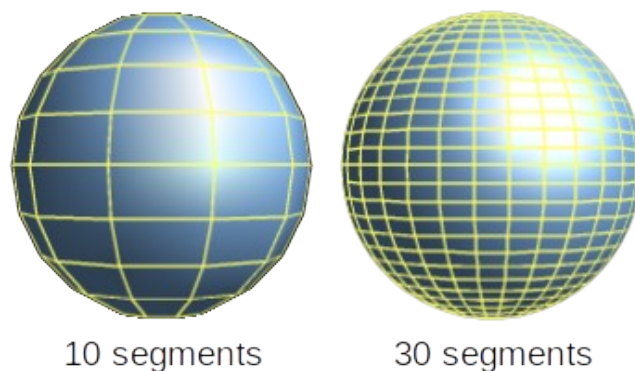

Figure 17: Example of segments
- **Segments** – changes the number of segments that Draw uses to draw a 3D rotation object. The higher the number of segments, the smoother the object surface will be. However, a high segment number may increase the time it takes to generate the 3D object on a display. Figure 17 shows the difference on a 3D sphere when the segments have been increased from 10 to 30 segments horizontally and vertically.